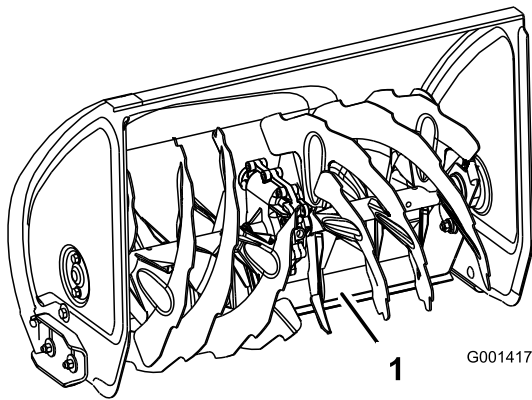

Figure 46
4. Push down on the handles to allow the pivoting scraper to move fully forward, then set the front of the machine down so that the front edge of the pivoting scraper contacts the ground (Figure 46).